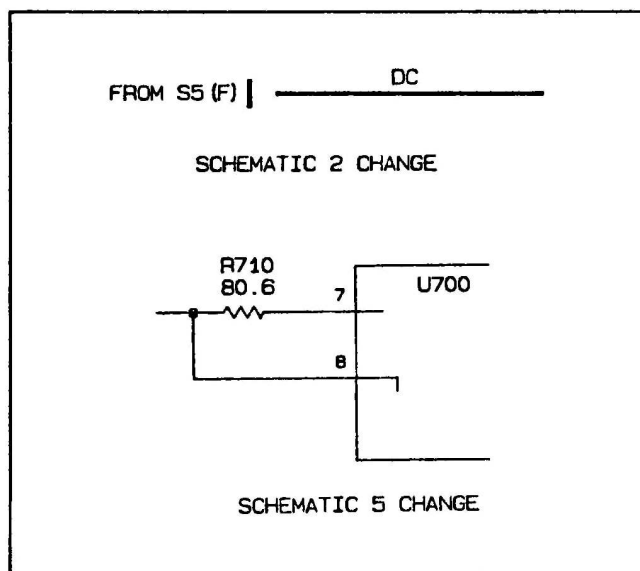

Figure 7-6. Schematics 2 and 5 Changes (Change #16)
**7-50. Schematic 5 Changes.** Delete R727 between pin 8 of U700 and R710 and connect pin 8 to R710, as shown in Figure 7-6.